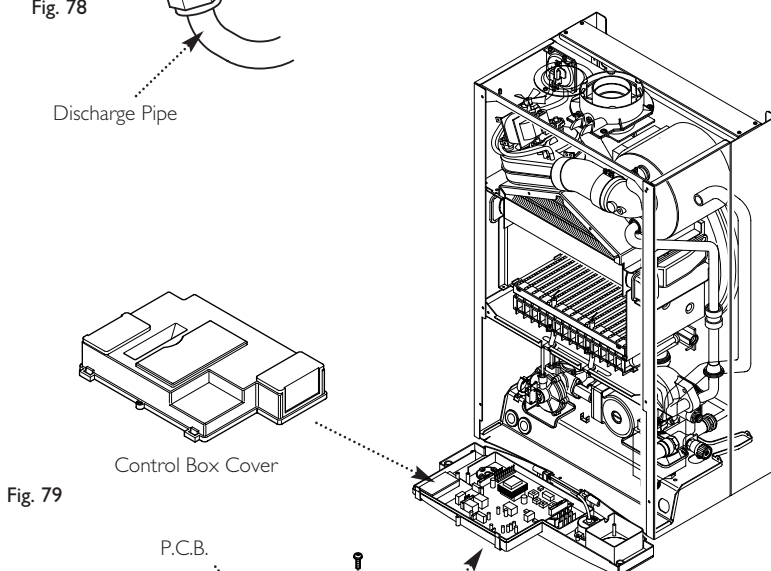

Fig. 79
2. Completely undo the screws securing the control box cover and release the cover retaining barbs from their slots. Disengage the rear of the cover from the control box hinge pin (Fig. 79).